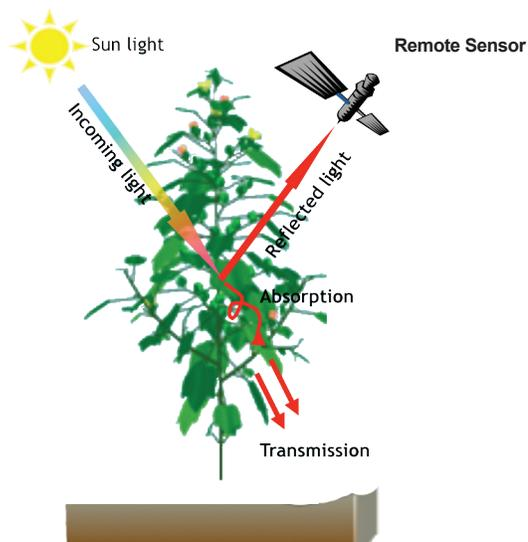

Figure 1. Remote Sensing consisting of: object's illumination, light reflection and/or absorption, and light transmission through the atmosphere
Most remote sensors used in agriculture measure the amount of light reflected and/or emitted from the object (figure 1). Light, whether man-made or natural, is composed of different portions of electromagnetic (EM) radiation energy classified by wavelengths in the EM spectrum (figure 2). The EM spectrum ranges from short wavelengths (including gamma and x-rays) to longer wavelengths (including microwaves and radio waves). Visible (VIS) wavelengths, or light seen as color by the human eye, only exist in a narrow range from about 400 to 700 nanometers (nm) (figure 2). Emittance or reflectance in a specific wavelength range of the EM spectrum is sometimes referred to as a spectral band.